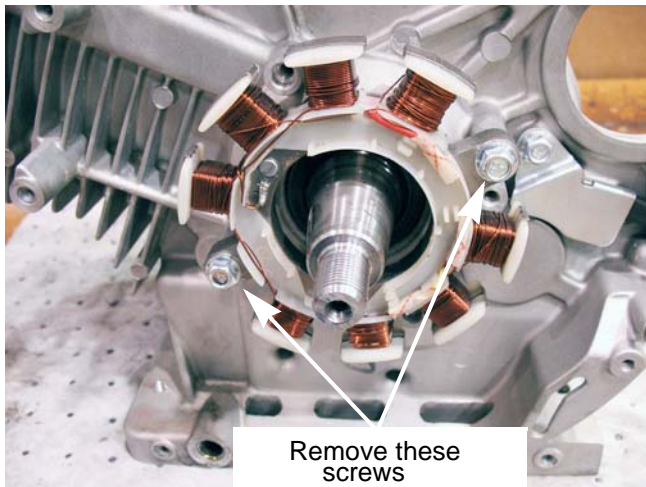

Figure 6.20
5. Remove the two screws that secure the stator with a 10mm wrench and lift the stator off of the engine. See Figure 6.20.